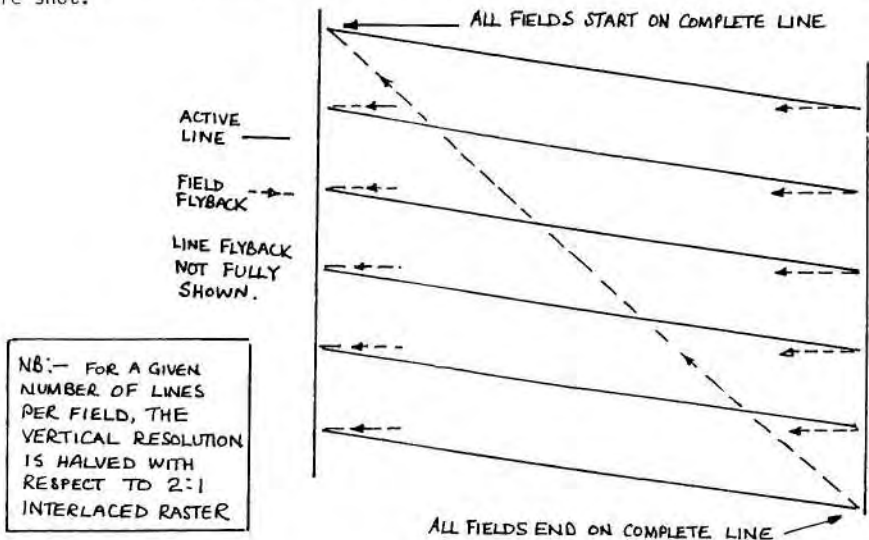

Fig.3
In Fig.3 I have shown a 6-line non-interlaced raster, which would compare in required bandwidth with our 11-line raster from Fig.1. In order to compare the two, let us assume a notional frame frequency of 25Hz, Fig.1 having two 5.5 line interlaced fields, and Fig.3 having two 6-line non-interlaced fields. Using equation (1), Fig.1 would require about 2kHz of bandwidth, and Fig.3 about 2.4kHz. Inspection of the drawings though shows that the vertical resolution of the non-interlaced raster, Fig.3, is much poorer than Fig.1. This is because the lines of the second "field" are identical to the first, and lay "on top" of them.